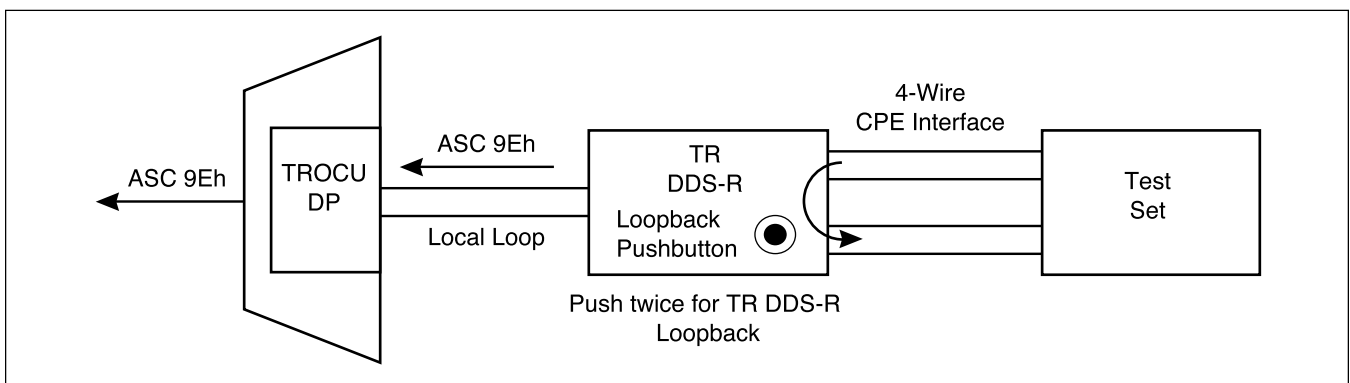

Figure 7. Total Reach DDS-R Remote End Initiated Loopback, Customer Loop
- Pressing the LBK pushbutton a second time initiates a loopback at the TR DDS-R towards the 4-wire DDS (CPE) interface. See **Figure 7**. A solid CUST LBK LED on the TR DDS-R indicates a loopback at the TR DDS-R towards the customer equipment.